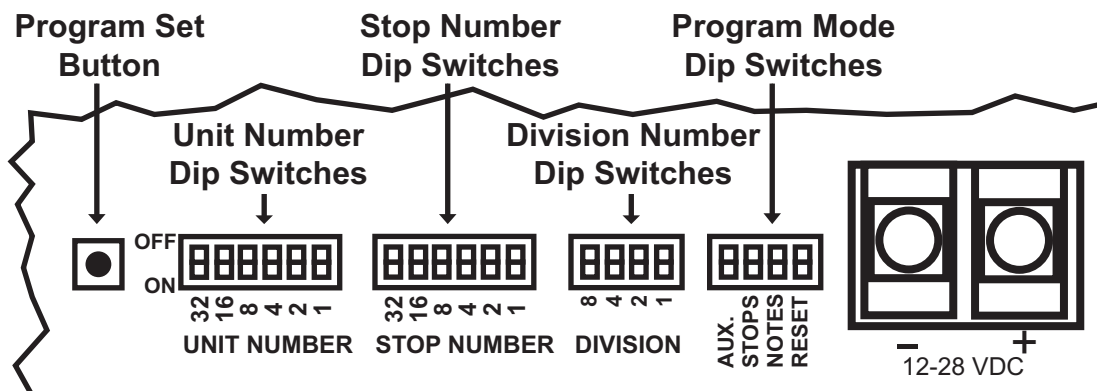

Figure 5.3 “Driver-Board-Programming-DIPs”
2. On the Program Mode Dip Switches, see figure 5.3 “Driver-Board-Programming-DIPs,” set the STOPS Switch to ON(closed). The AUX., NOTES and RESET Switches must be OFF (open).
4. Set the Division Number Dip Switches, see figure 5.3 “Driver-Board-Programming-DIPs,” to equal the division number that the Console Stop is in (Pedal/Division-1; Great/Division-2; Swell/Division-3 and Choir/Division-4 ...).
5. Set the Stop Number Dip Switches, see figure 5.3 “Driver-Board-Programming-DIPs,” to desired Stop number.
6. Set the Unit Number Dip Switches, see figure 5.3 “Driver-Board-Programming-DIPs,” to desired Unit number. For a list of Stop Unit Numbers see table 5.1 “Stop Unit Type.”